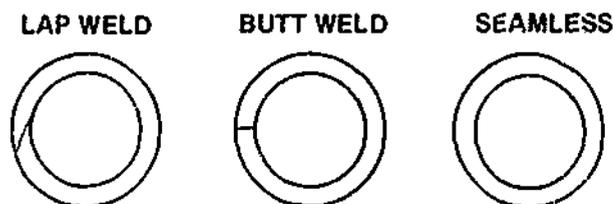

Figure 7-1. Types of Galvanized Steel Pipe
7. Methods of manufacture change periodically, but galvanized steel pipe can generally be classified as one of the three types as shown in Figure 7-1.